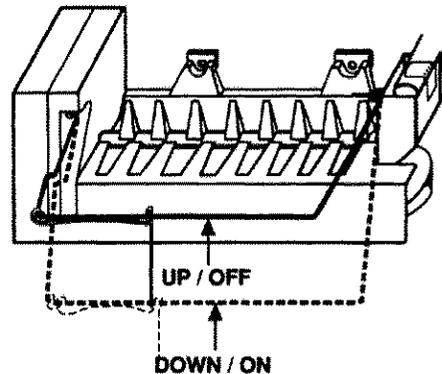

Figure 36
- b. To remove ice storage bin, raise ice maker shut-off arm to OFF position (audible “click” is heard). See Figure 36.
- d. To stop ice production, raise ice maker shut-off arm to OFF position (audible “click” is heard). See Figure 36. Remaining cubes will be dispensed from ice bin until all are used or until bin is emptied.
- e. When leaving for extended periods, raise ice maker shut-off arm to OFF position (audible “click” is heard). See Figure 36. Empty ice storage bin to prevent cubes from freezing around ice auger.